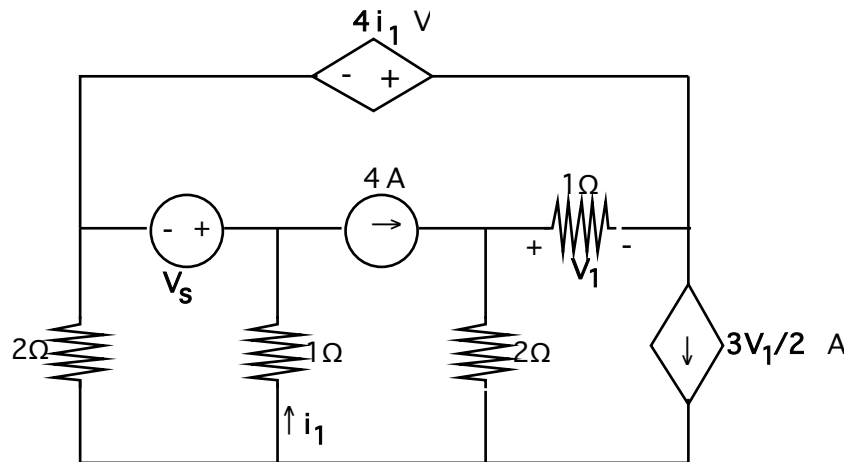

Fig. 2
- 4.5 Use the Bias Point Analysis command to find V_1 in fig. 2 if V_s is increased from 10 V to 20 V in 2 V increments.